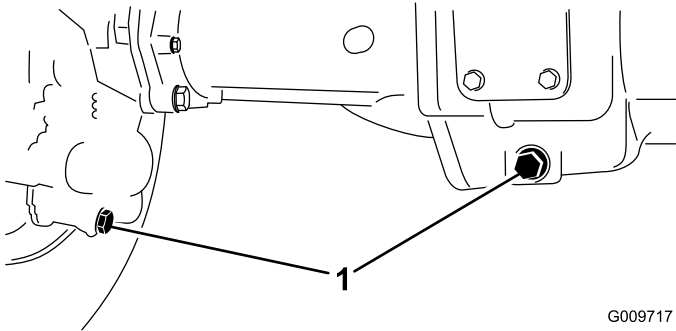

Figure 107
2. Clean the area around the 3 drain plugs, 1 on each end and 1 in the center (Figure 107).